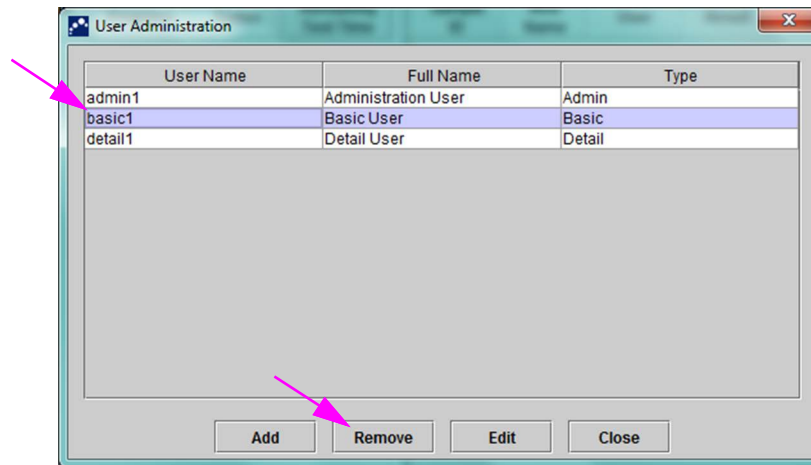

Figure 2-55. User Administration Dialog Box selecting User to be Removed
3. Click **Edit**. The Edit User dialog box appears. See Figure 2-55.